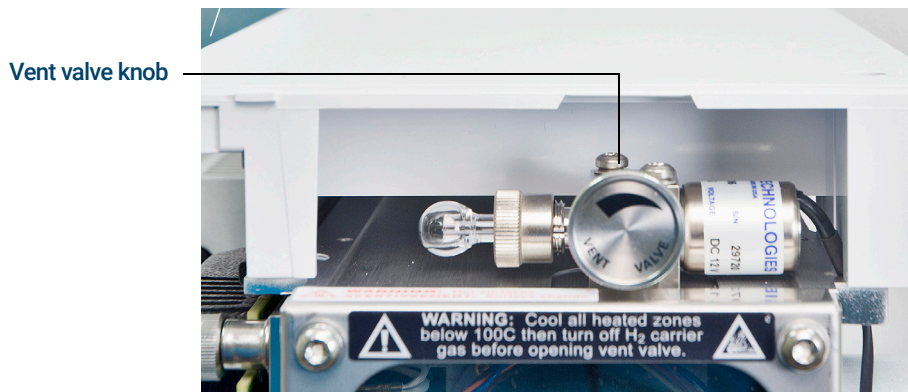

Figure 47 Vent valve knob
- 3 Verify that the vent valve is open by turning it clockwise until closed. (See Figure 47 on page 140.)
- 4 Open the vent valve by turning it counterclockwise 45 degrees. (See Figure 47.)
- 8 Close the vent valve when it makes a hissing sound. (See Figure 47.)